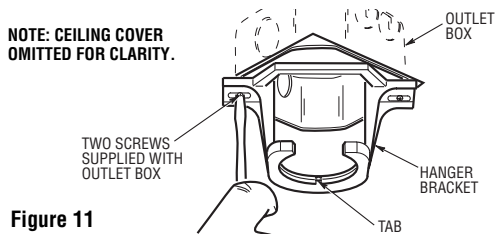
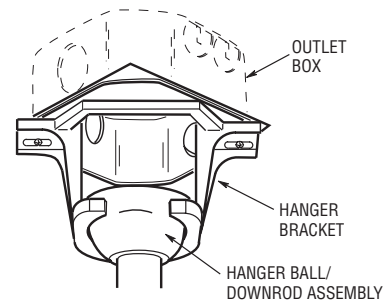

Figure 11
Figure 12
1. Securely attach the hanger bracket to the outlet box using the two screws supplied with the outlet box. (Figure 11.)
2. Carefully lift the fan and seat the hanger ball/downrod assembly on the hanger bracket that was just attached to the outlet box (Figure 12). Be sure the groove in the ball is lined up with tab on the hanger bracket (Figure 11).